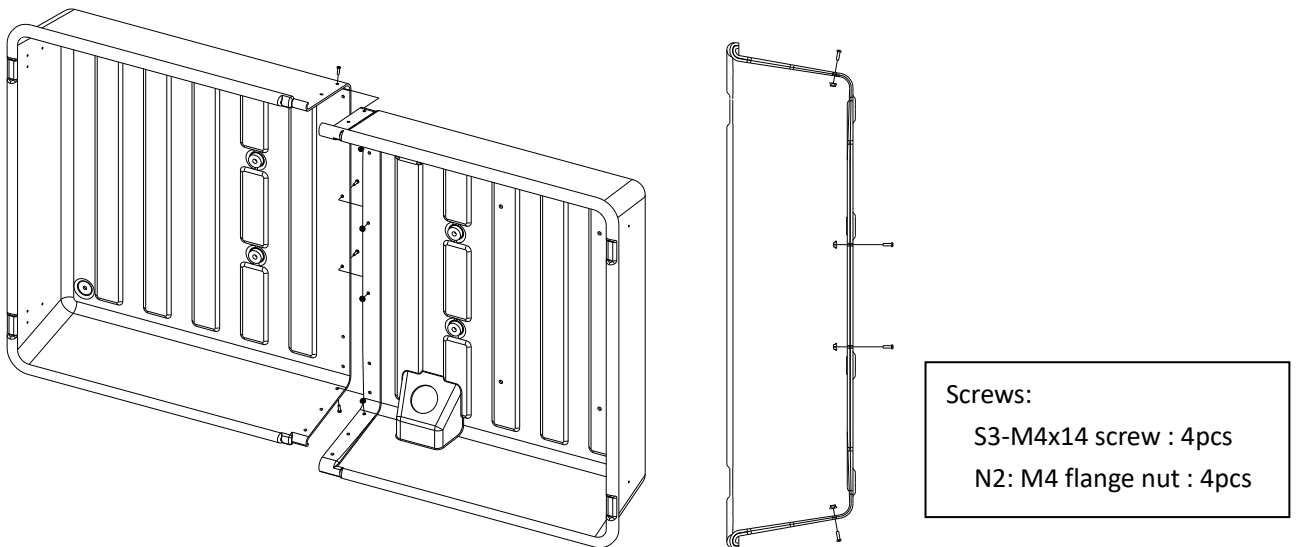

Figure 3
2. Place the Storm Shell Back right part and left part together. Connect the two parts using four (4) S3 bolts with four (4) N2 flange nuts as shown in Figure 3. Note: The bolt head is placed on the outside of the Storm Shell Back and the flange nuts are secured on the inside. Figure 3.